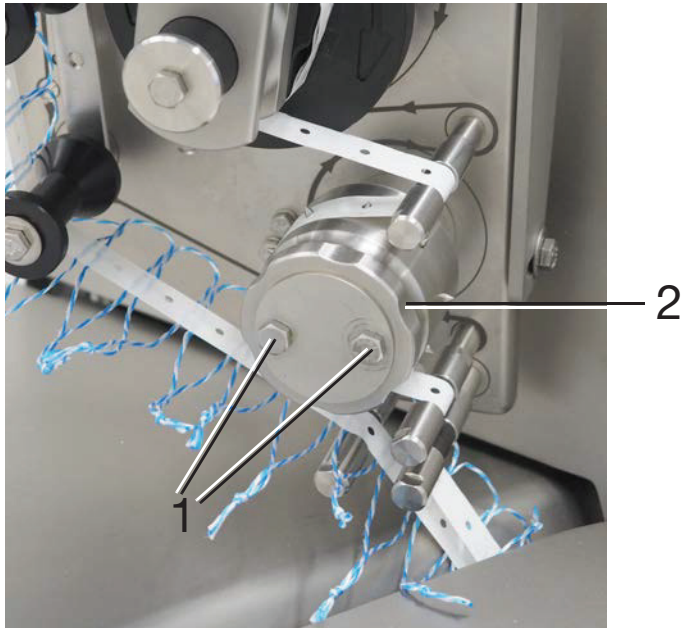

Fig. 8-4 GSA 20
- Loosen the screws (1). (Fig. 8-4)
- Turn the transport wheel (2) by hand. (Fig. 8-4)
- Tighten the screws (1).